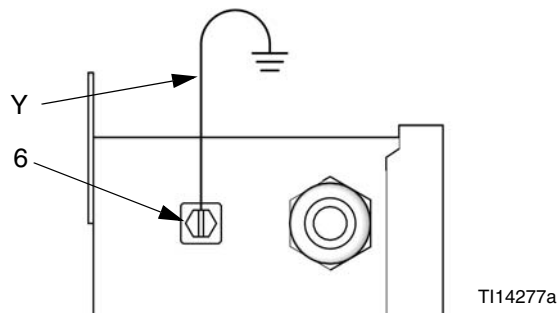

FIG. 11. Ground the Enclosure
Connect a ground wire (Y) from the enclosure's ground screw (6) to a true earth ground. See FIG. 11.